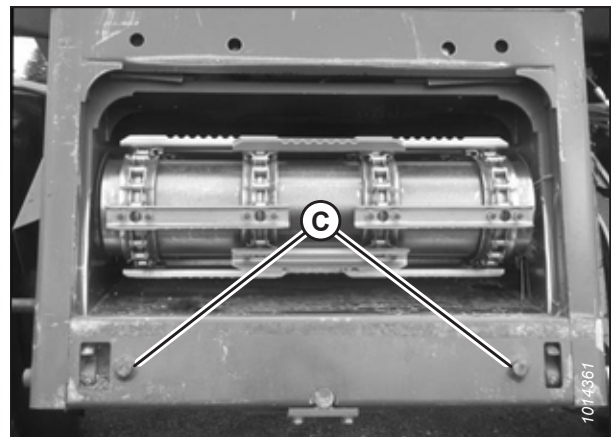

Figure 3.53: AGCO Group Alignment Pins
4. Slowly approach the header until the feeder house is directly under float module top cross member (A). Ensure that alignment pins (C) (refer to Figure 3.53, page 65) on the feeder house are aligned with holes (B) in the float module frame.